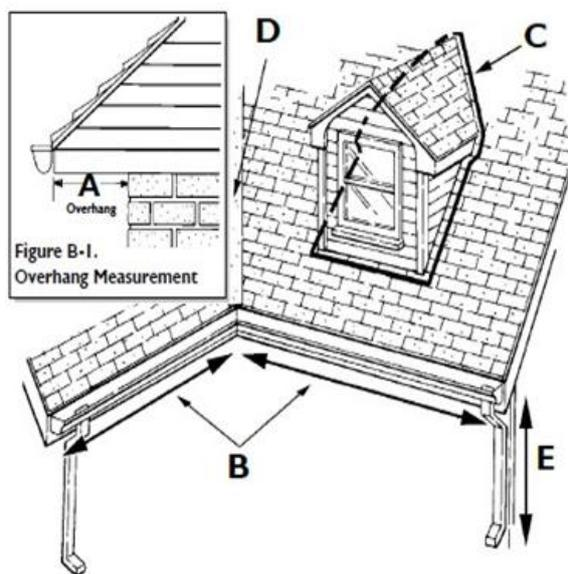

Figure B-1. Overhang Measurement
**Step 1** - For each area listed in Table B-V, measure the required dimensions (see Figure B-1 and B-2 on page 26, and Figure B-3 on page 28) and calculate the length of cable needed. Add each “area” calculation to determine the total cable length needed.